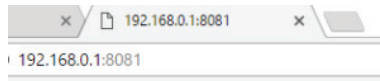

Figure 16: xPicoWiFi Web Address
5. Once connected, open a browser window and type “192.168.0.1:8081” in the address bar. Press the Enter key. See Figure 16.